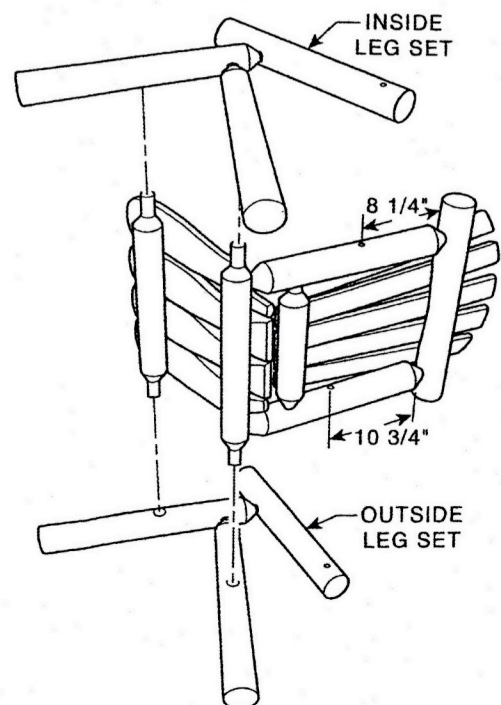

Figure 5
**Note: The BACK assemblies have pre-drilled holes for inside leg sets and outside leg sets. Measure the distance to determine which side aligns with the correct leg set, as shown in figure 5.**